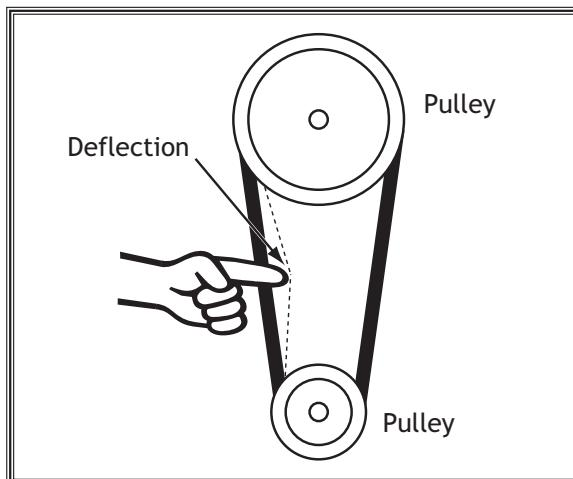

Figure 14. Checking belt deflection.
14. Push the center of the V-belt as illustrated in **Figure 14**, using moderate force. When tensioned correctly, the deflection should be approximately $1/4"$.